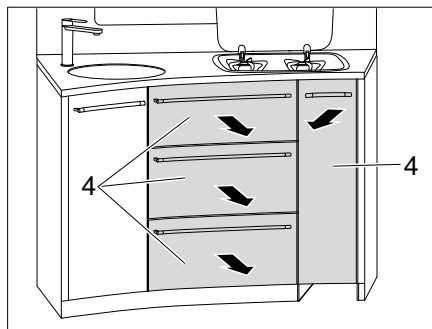

Fig. 128 Removing kitchen drawers
- Remove the kitchen drawers (Fig. 128,4).